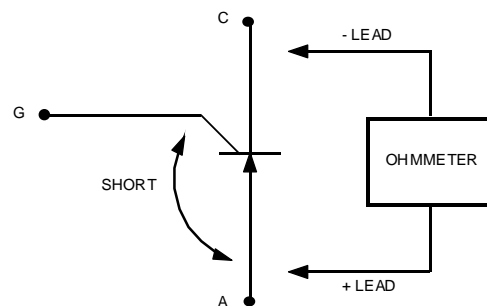

Figure 17: Temporary Jumper - Gate to Anode
4. Temporarily jumper the gate to anode, with the meter connected (See Figure 17). Resistance should be one thousand ohms or less.